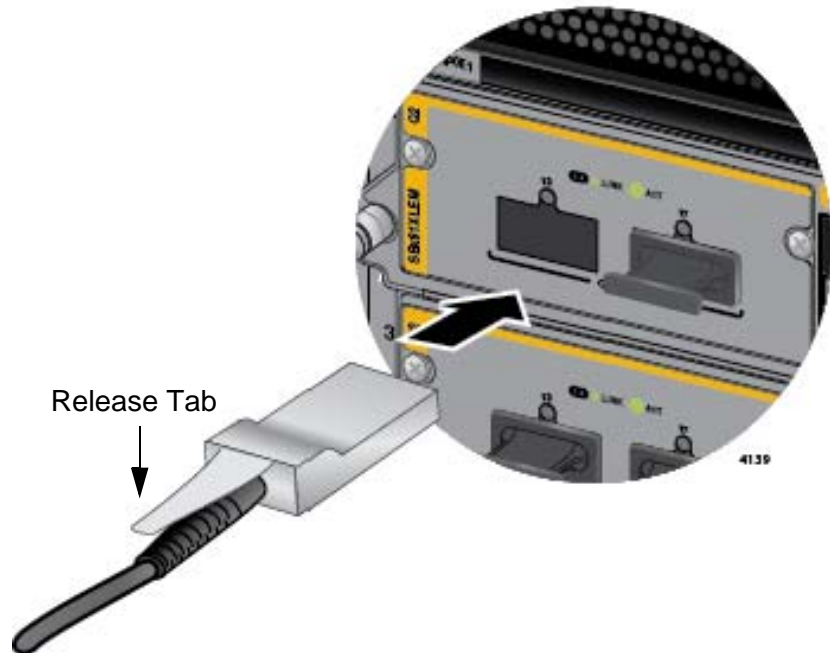

Figure 107. Sliding the AT-QSFPCU Cable into the Slot
2. Orient the connector on the AT-QSFPCU Cable with the release tab on top and slide it into the slot until it clicks into place. Refer to Figure 107 on page 177.